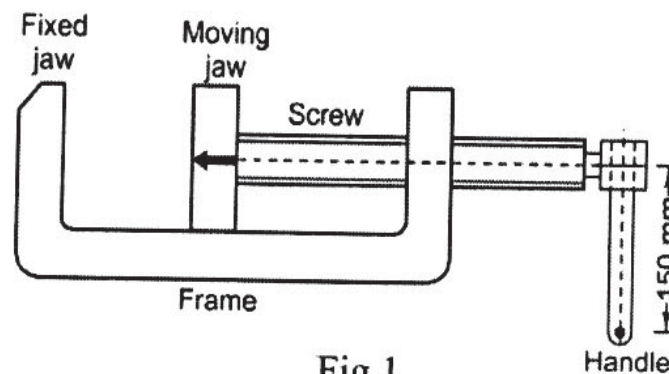

Fig.1
- b) A machine vice, as shown in Fig. 1 has single-start, square threads with 22 mm nominal diameter and 5 mm pitch. The outer and inner diameters of the friction collar are 55 and 45 mm respectively. The coefficients of friction for thread and collar are 0.15 and 0.17 respectively. The machinist can comfortably exert a force of 125 N on the handle at a mean radius of 150 mm. Assuming uniform wear for the collar, calculate; **[12]**